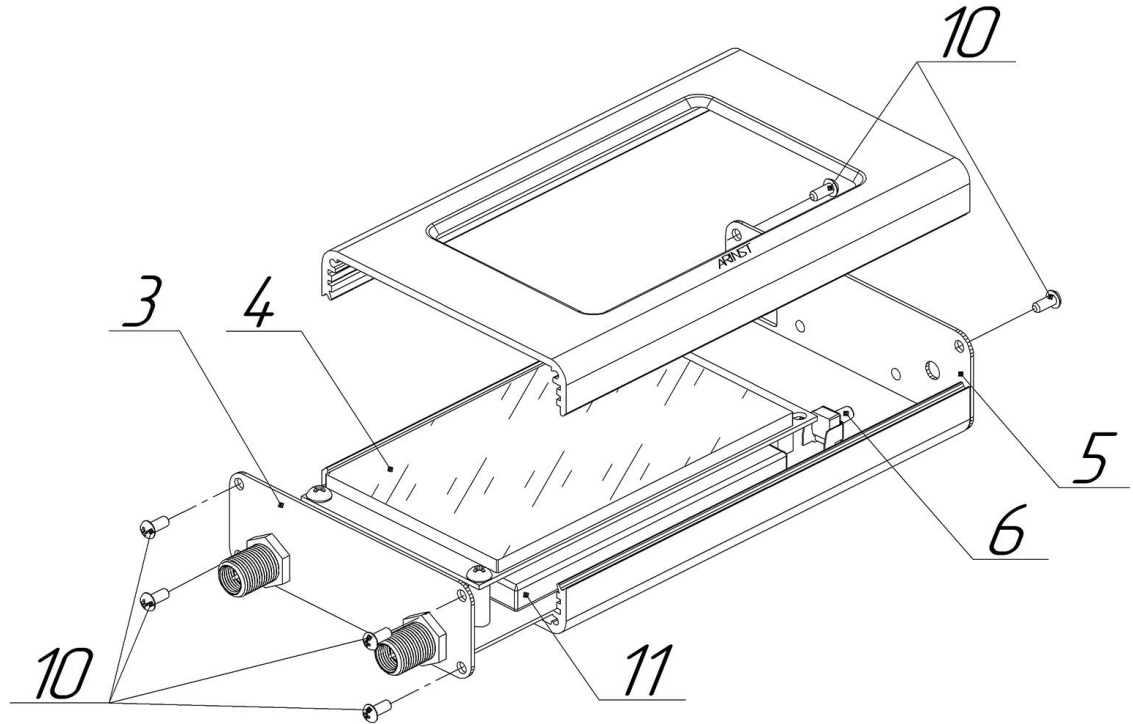

Figure 11.1 - Disassembly of the device case
11.3.4. Remove the 4 screws (10) on the high-frequency connector panel (3). Then remove the 2 upper screws (10) on the display panel (5). (Figure 11.1).